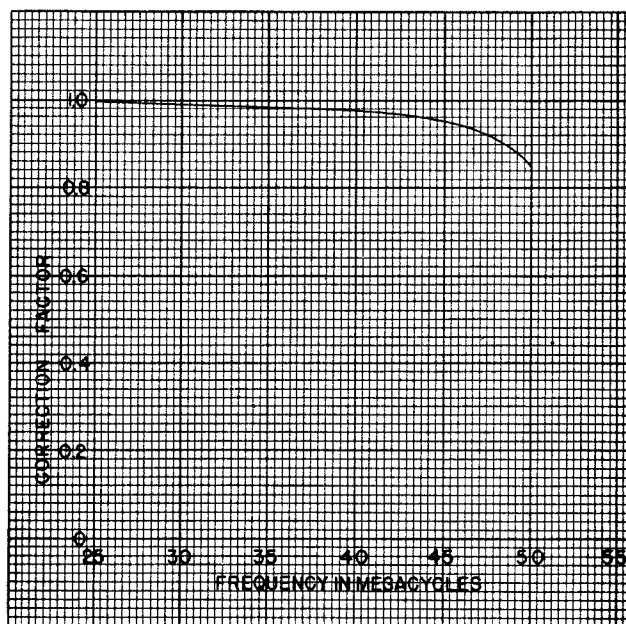

Figure 4-2. Correction Factor — Frequency Curve for Output Voltage on Band H
(2) Whenever changing frequency, readjust the CARRIER CONTROL (E-101) for a meter reading of "100" with the MICROVOLTS control (E-103) returned to the fully clockwise position. Select the desired output voltage by rotating the MICROVOLTS control. Do not use the CARRIER CONTROL for this purpose.
(3) To avoid leakage, the X RF OUTPUT jack (J-101) and the EXTERNAL MOD INPUT jack (J-103) should be covered by caps O-107 and O-110. Similarly, the X MULT RF OUTPUT jack (J-102) should be covered by cap O-108 when not in use.
c. VOLTAGE CORRECTION AT HIGH FREQUENCIES. — Due to output jack reactance and increased RF distortion at frequencies above 30 mc, the actual output voltage at these frequencies is somewhat less than the voltage indicated by the meter. This can be adjusted by selecting the correction factor from Figure 4-2. Multiply this factor by the meter indication to get the actual output voltage.
- (b) Select meter correction factor for 45 mc from Figure 4-2 (i.e. .92).